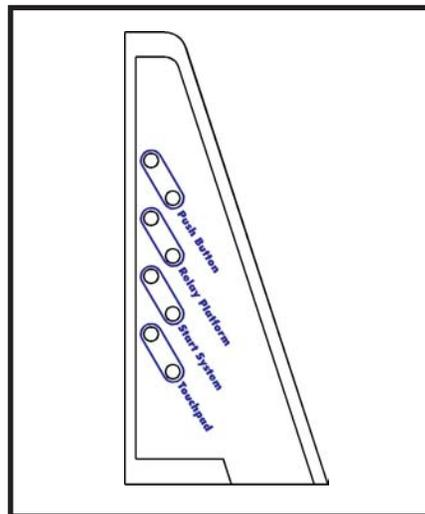

Figure 1: Detail of the banana plug ports.
2) Start Reaction mode: To set up QuickStart to test swimmer's start reaction times, you will need a push button, an electronic starting device (like the CTS Infinity or Championship Start System), and a CTS Relay Judging Platform. Plug the push button into the Push Button port, the RJP into the Relay Platform port, and the start system into the Start System port. See Figure 1 for proper placement of each plug.